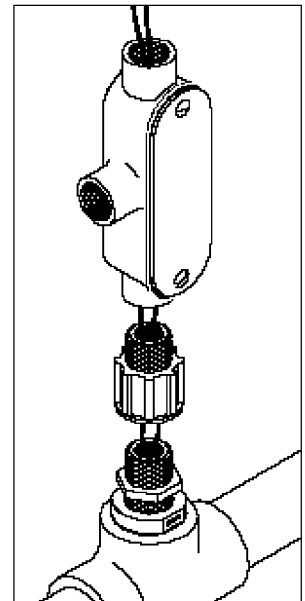

FIGURE 4
6. Pass wires to the controller through threaded nipples, union and access tee. Leave vent open on access tee. Refer to Section 6, Diagram 2, page 24. (Figure 4)